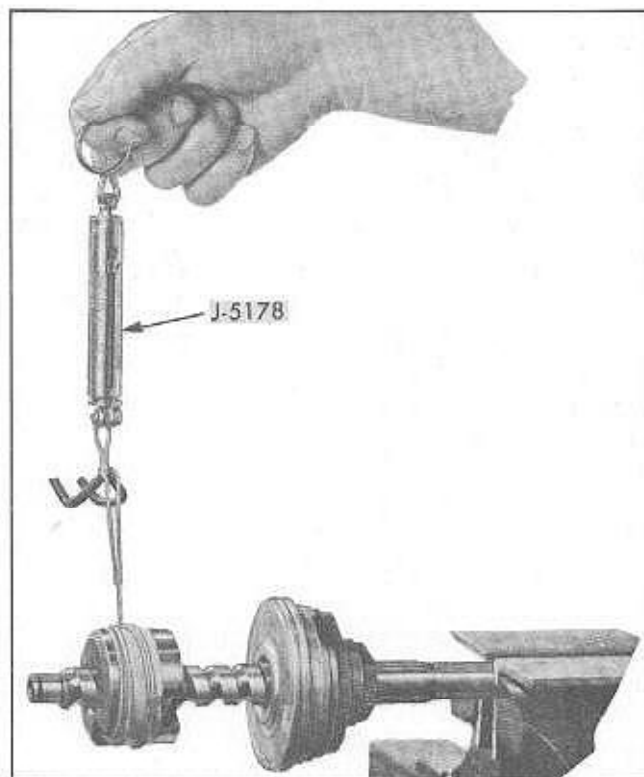

Fig. 9-52 Measuring Preload of Ball Nut Using Tool J-5178
5. The worm groove is ground to provide a "High Point" through center. To measure preload, clamp worm in a vise using soft jaws, fasten a cord to ball nut and wind it around two or three times. Using spring scale J-5178 (Fig. 9-52) slowly pull, unwind-